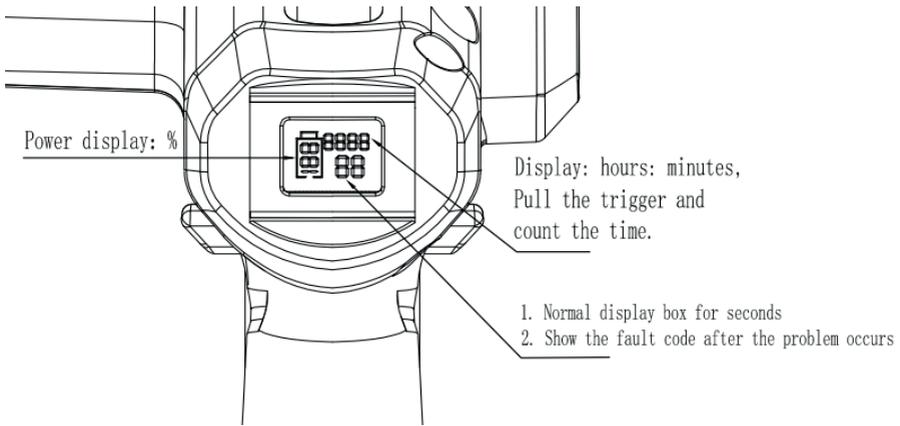

Figure 6
- c) With the start of the tool, the display lights up with the indications shown in Figure 6